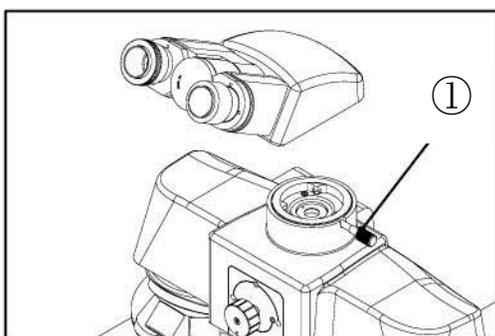

Fig. 4
Loosen the lock screw ①, and carefully insert the binocular viewing head into the main body. Rotate the head so it is facing forward, then tighten the lock screw ①, as shown in Fig. 4.